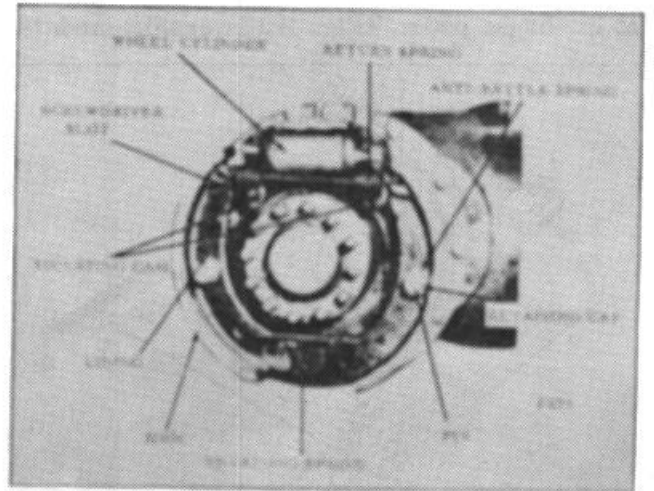

**Figure 4.**
3. Pull the wheel from the truck. (Fig. 4) Inspect the surface of the drum for badly worn areas, and, if resurfacing is necessary, this should be performed before assembly.